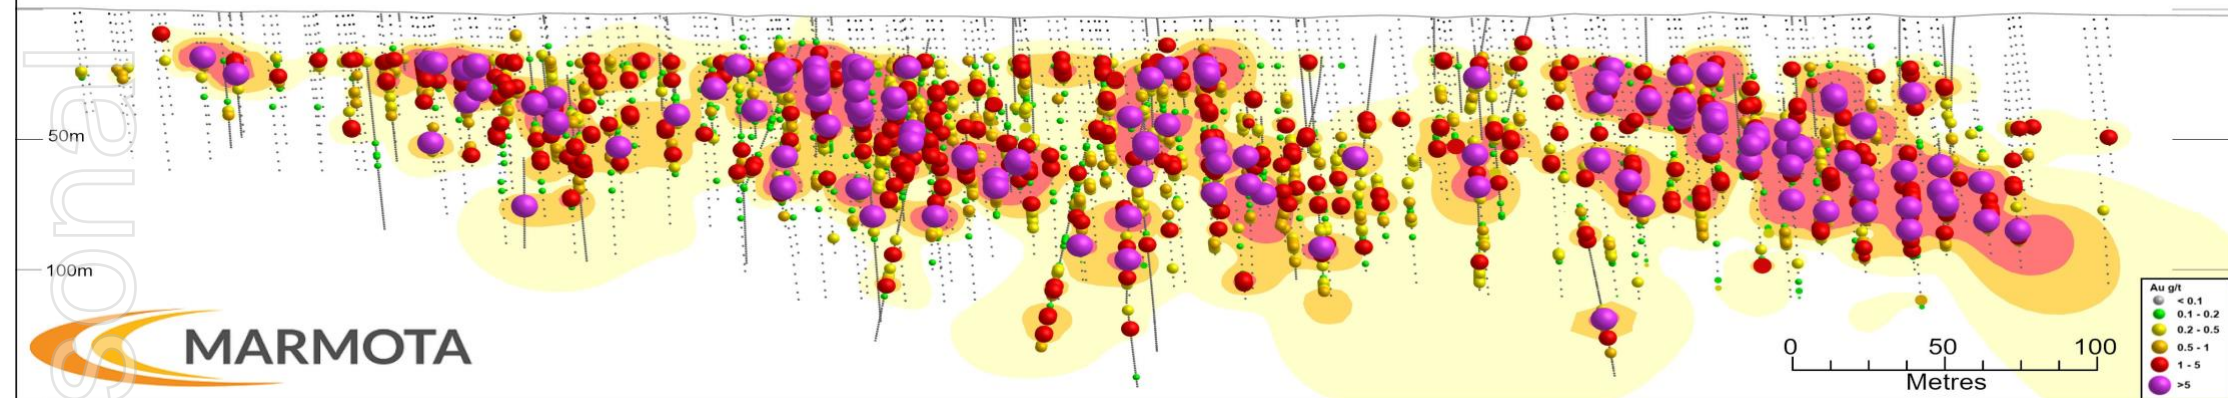

Figure 1: First long section view of Greenwood zone (from SW to NE)
Figure 1 provides the first **long-section view** of the Greenwood deposit.
- The program has delineated a nearly-continuous high-grade mineralised system [see purple dots in **Fig. 1** and **2**].
- The deposit features multiple bonanza gold grades, close to surface, with excellent continuity along strike (see the high-grade purple dots in **Fig. 1** and **2**), with exceptional thick high-grade intersections including **33m @ 10 g/t gold** from 22m downhole [ASX:MEU 11 Dec 2025], **22m @ 5.1 g/t gold** from 49m, **12m @ 5.4 g/t gold** from 19m, etc.
Mineralisation at Greenwood features bonanza grade intersections, close to surface, including high grades at both sides of the deposit (cross-sections 58b and 71b). The results (see also Figure 1) show the continuity of the high grades across the deposit. The shape of the Greenwood ore body (see cross-sections above) has a favourable resemblance to the textbook shape/geometry of an open-pit operation.